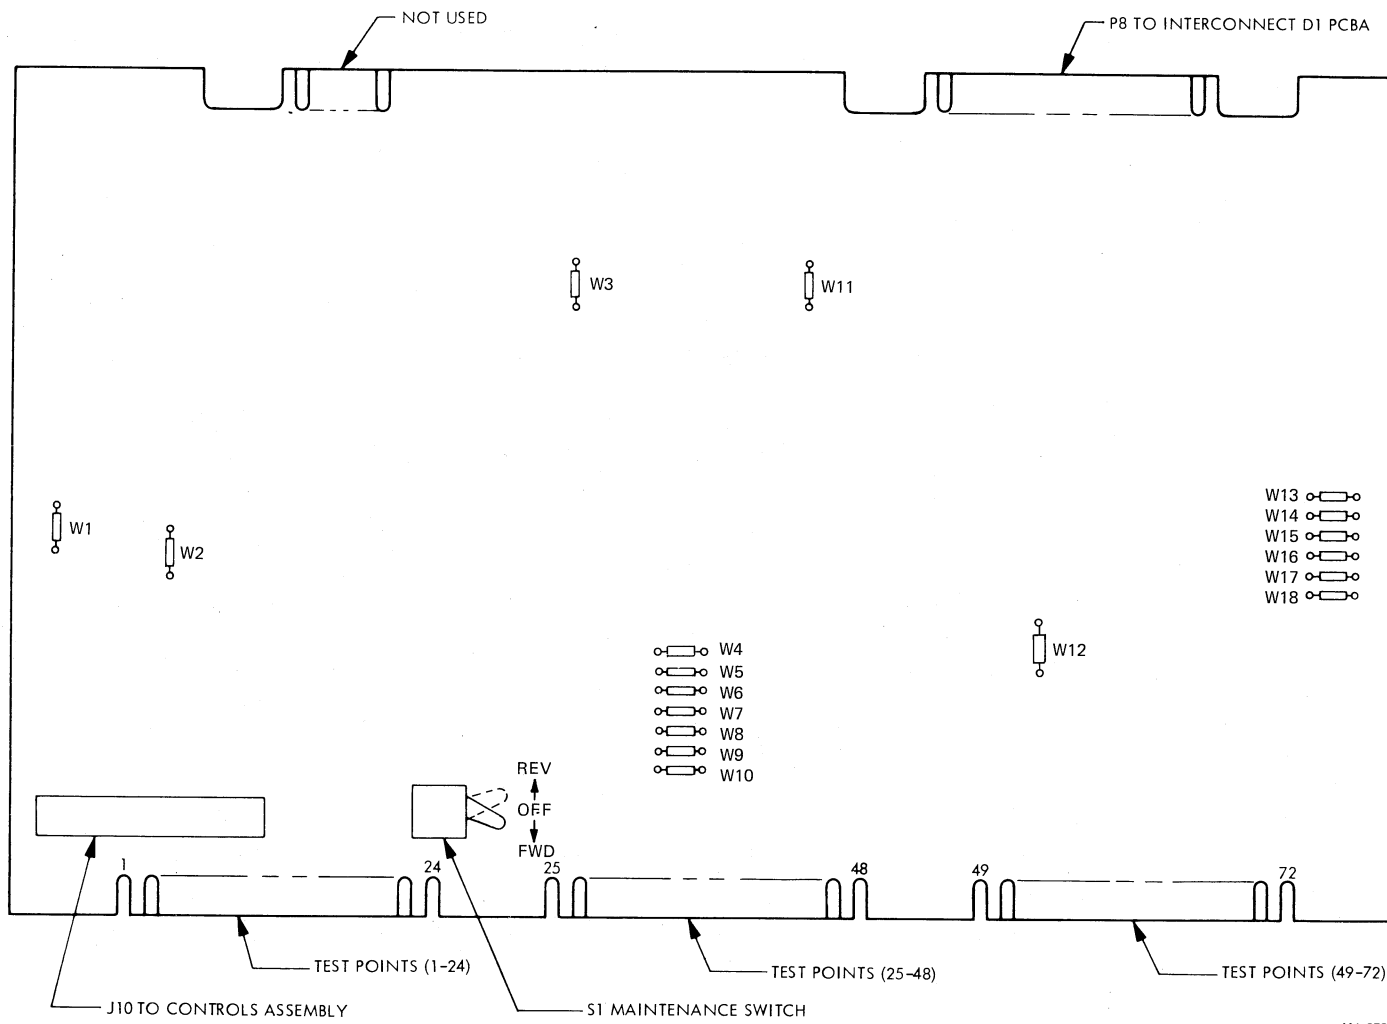

Figure 6-6 Control M2 PCBA Adjustments and Test Points
5. Place maintenance switch S1 on the control M2 PCBA (Figure 6-6) toward the front of the transport to drive tape forward.
7. If the reading is out of tolerance, loosen the butterfly valve lock nut (I) and turn the adjustment screw (C) for a reading of 864 mm (34 in) of water. While holding the screw, tighten the locknut and observe the air gauge to make sure the adjustment has not changed.
4. Remove red cap from air bearing pressure port (N) and connect a differential air gauge with a range of 0–34 kilopascals (0–5 psi). Use the high pressure input of the air gauge to measure pressure.
5. Place maintenance switch S1 on control M2 PCBA (Figure 6-6) toward the front of the transport to drive tape forward.
7. If the reading is out of tolerance, loosen the locknut and adjust the air bearing pressure adjustment screw (J) for a 25.8 kilopascals (3.75 psi) reading.
An alternate procedure for measuring capstan speed is to measure the frequency of the tach pulses. Connect a scope to control M2 PCBA, TP40 (Figure 6-6). The time period from trailing edge to trailing edge should be $80 \mu\text{s} \pm 0.8 \mu\text{s}$.